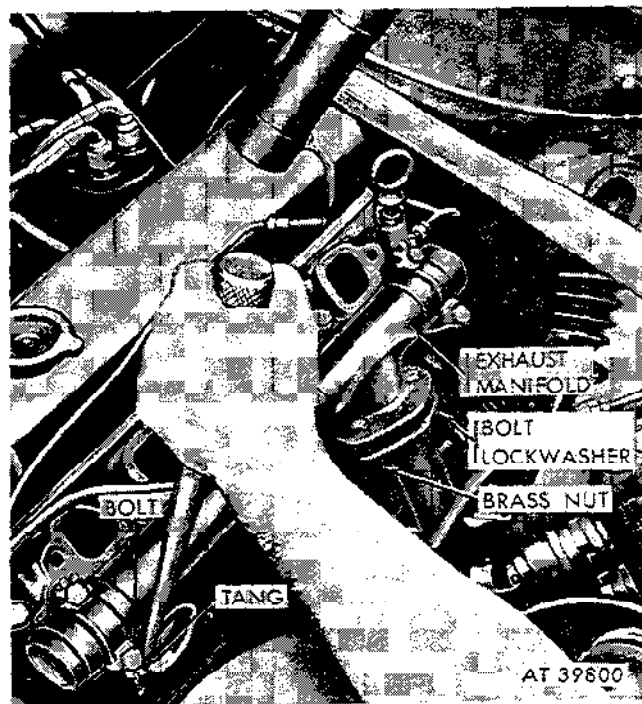

Figure 2-75. Remove bolts from exhaust manifold.
- (1) Remove intake manifold (para 2-39).
- (2) Remove two brass nuts securing inlet pipe to exhaust manifold (fig. 2-75).
- (3) Remove bolt and lockwasher securing exhaust manifold flange to block (fig. 2-75).
- (4) Open locking tabs on four mounting bolts and remove bolts and two clamps (fig. 2-75).